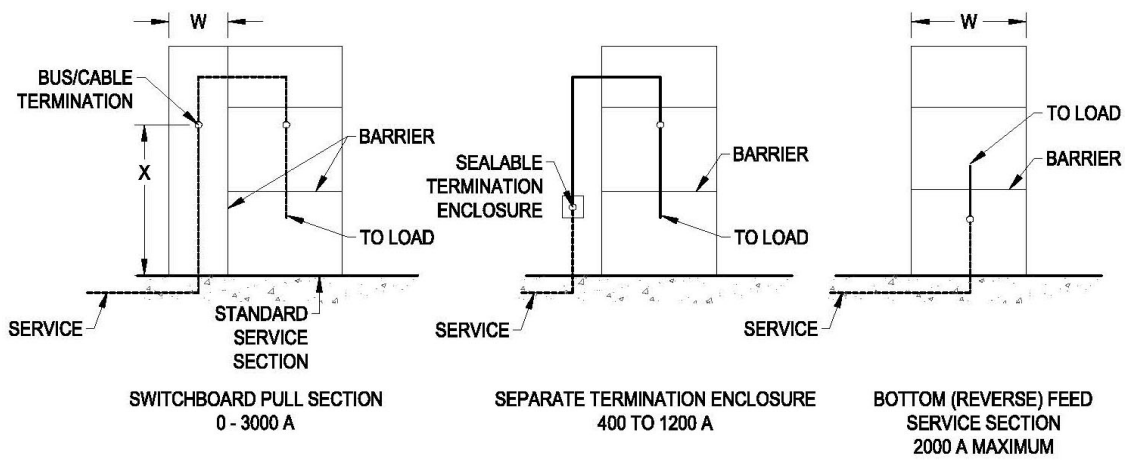

Figure 108. Underground Service Termination Switchboard Service Section, 400 to 3000 A, 0 to 600 V (EUSERC 345) (STD-D-6258)
- For pull section details when used on underground services, see Figure 108 (or refer to EUSERC 345) and Table 36.
- The minimum dimensions in Figure 108 are for vertical entry at the top or bottom only. Side or rear entry of the service cable into the pull section may require a greater dimension than that shown in Table 36.